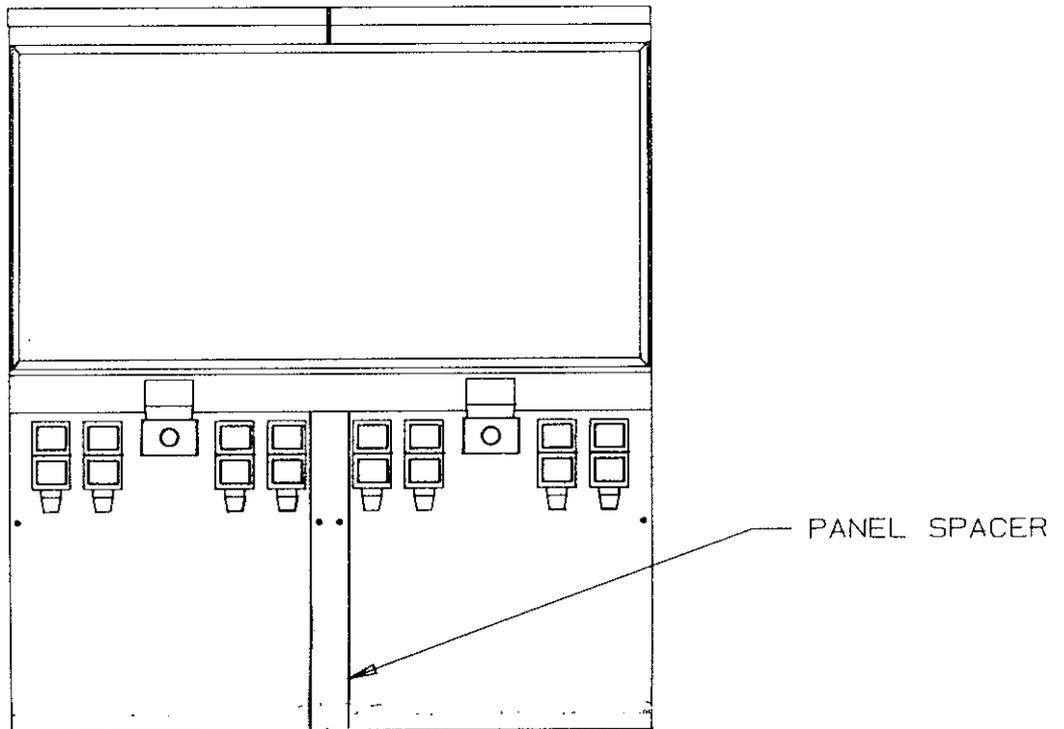

FIG. 2
4. Install the two (2) front panels supplied with the kit on the units. Route the electrical cord on the left side unit installed in step 3 through the 2 inch diameter hole in the panel. This cord will supply power to the lighted display.
5. Position the two (2) units together and install the lower front panel spacer and sink spacer as shown in Figure 2.